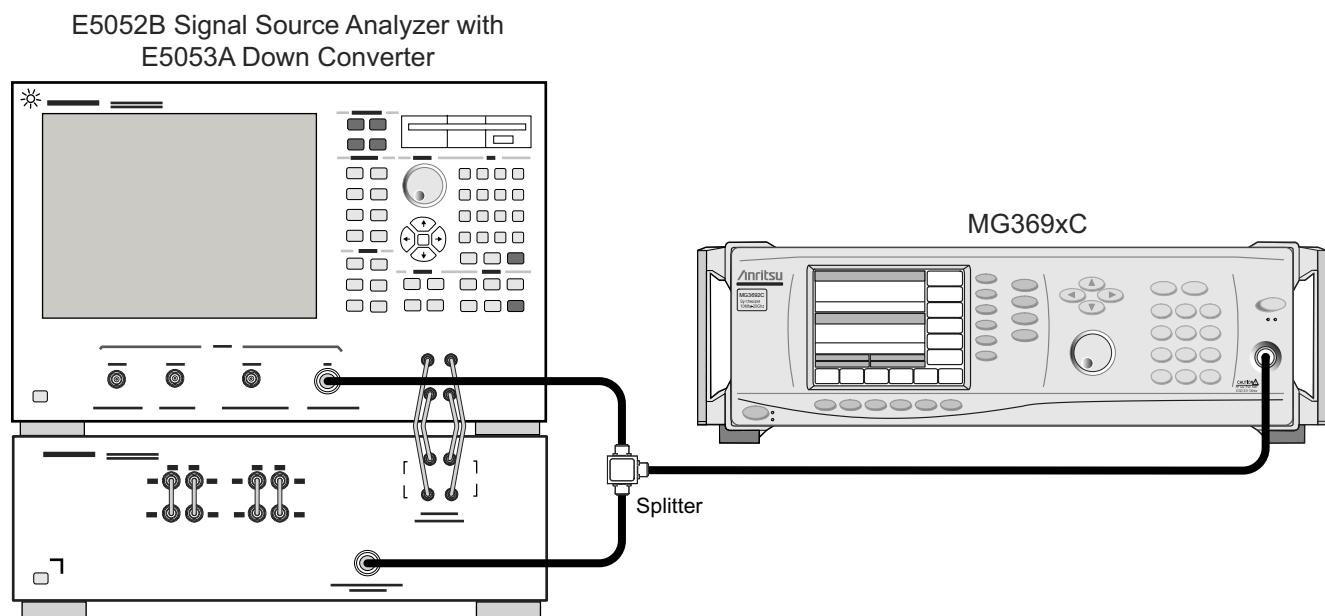

Figure 3-4. Equipment Setup for Single Sideband Phase Noise Test with E5052B and E5053A
- Connect the MG369xC as shown in Figure 3-4.